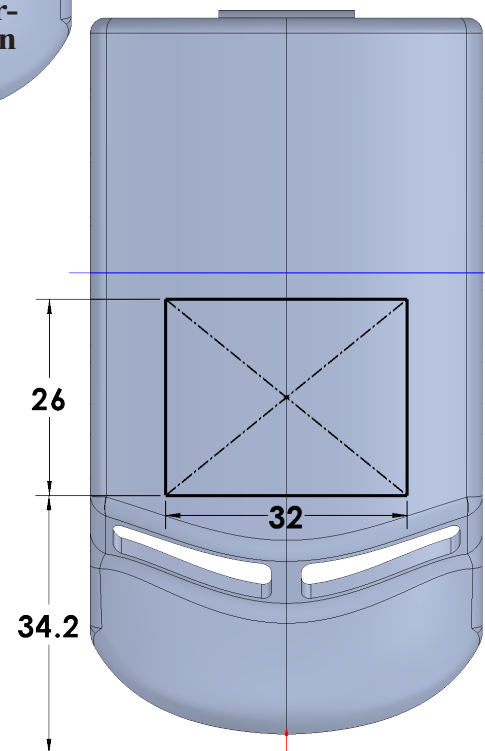

Fig. 81
- Step 7. Click **Smart Dimension**  (S) on the Sketch toolbar.
- Step 8. Add dimensions, **Fig. 81**.
Step 11. Click **Mirror Entities**  on the Sketch toolbar, Fig. 81.